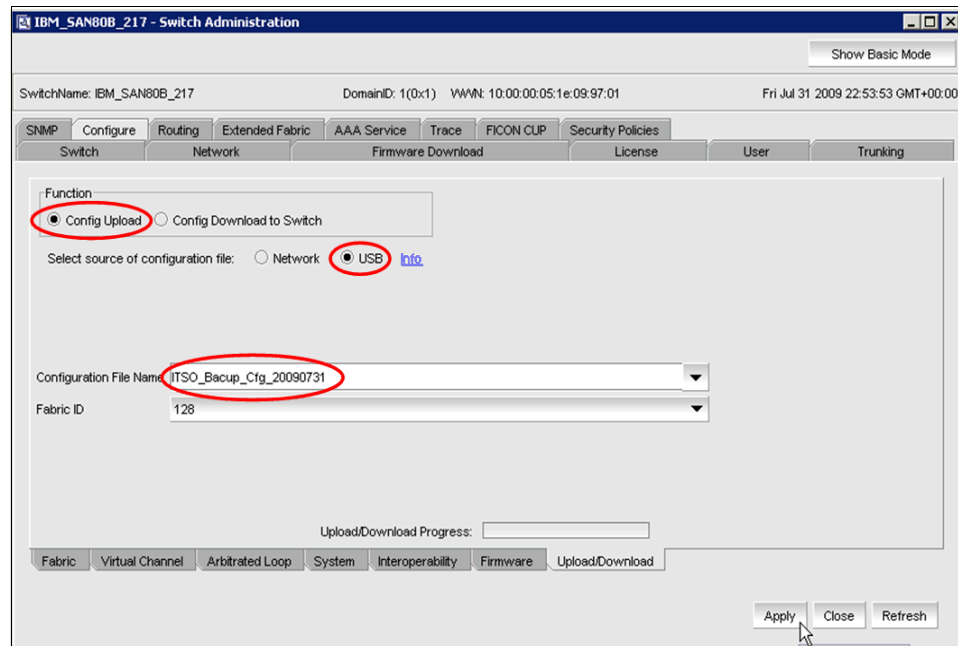

Figure 12-55 Config Upload to a USB device
4. Next, follow the steps that are similar to those described in 12.5.1, “Backing up a zone configuration to an FTP server” on page 562 to back up the configuration, except that you need to select the USB check box in order to select the USB drive as the source (as highlighted in Figure 12-55). Then, select the Configuration File Name and click **Apply**.